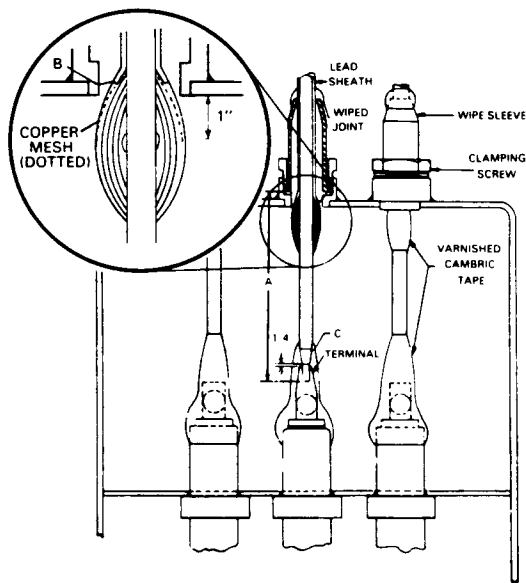

Fig. 4 Terminal chamber
13. Build up the penciled portion (C) of the insulated bare conductor and beveled section of the terminal with varnished cambric tape treated with a thorough application of cable oil between each layer.
14. Locate the wiping sleeve on the cable so that the gasket surface of the wiping sleeve is distance A (Fig. 4) from the end of the cable. This distance can be obtained by direct measurement or from the transformer Outline. Make the wiped joint between the wiping sleeve and the cable sheath.